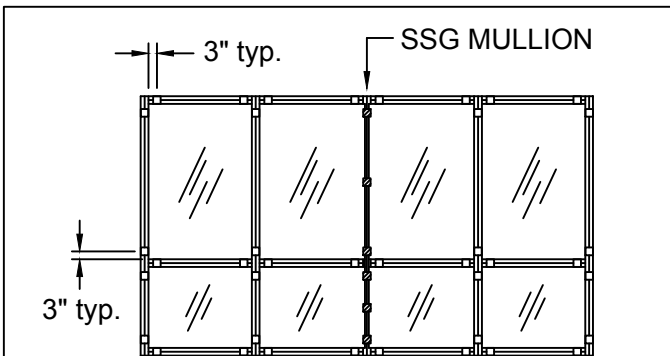

FIGURE 25
- Full length pressure plates must be installed if severe weather or high wind loads are anticipated. **SEE FIGURES 25 & 26, page 25.**